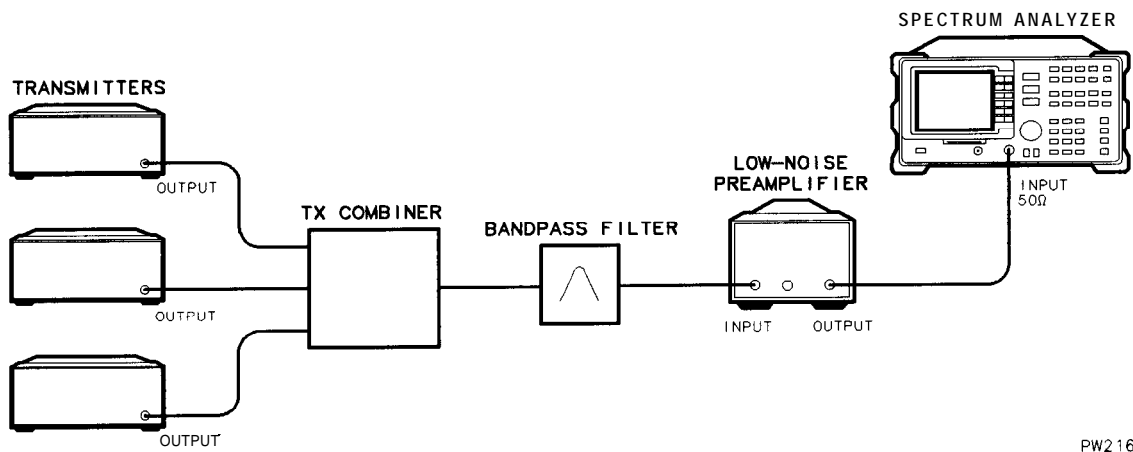

Figure 3-33. Test Setup for Intra-BSS Intermodulation - RX Band
1. Refer to Figure 3-33 for the test setup.